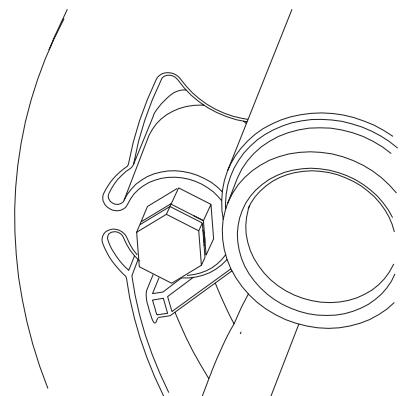

Figure 15
Step 4: Install the grounding plug on the outside of the same ground location (Figure 15).